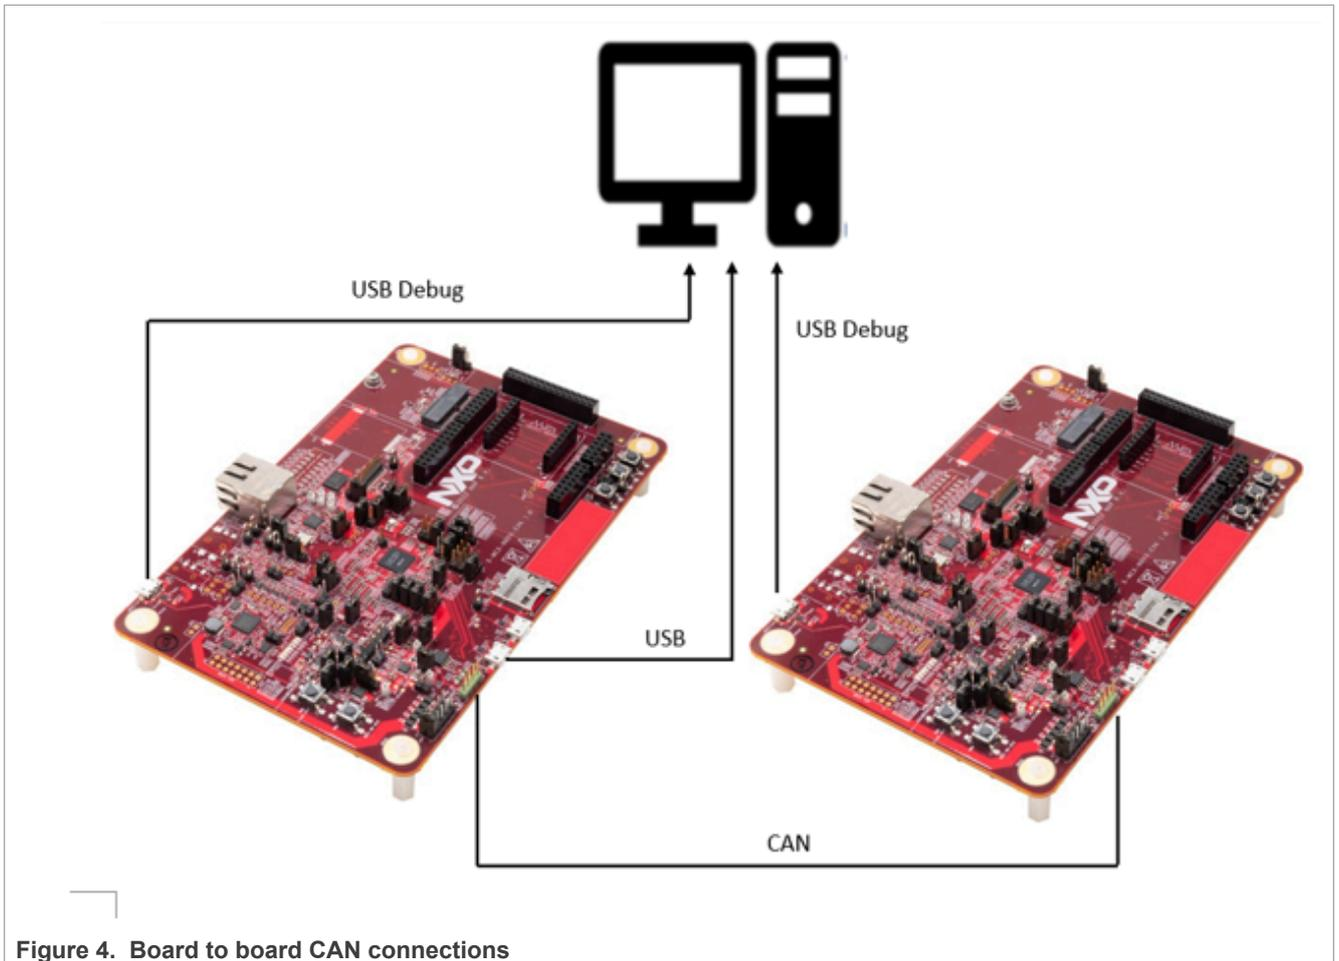

Figure 4. Board to board CAN connections
- Board to board CAN connections are described in Figure 4.